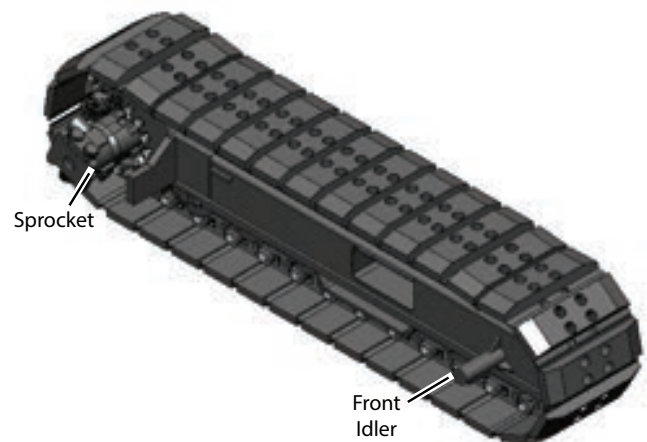

Figure 5-29. Front Idler
Follow this procedure for replacing the front idler (**Figure 5-29**):
1. Follow **Steps 1 - 4** in the previous section. The track tension cylinder is located behind the front idler. **(Figure 5-29)**
6. Remove bolts holding sprocket. **(Figure 5-29)**